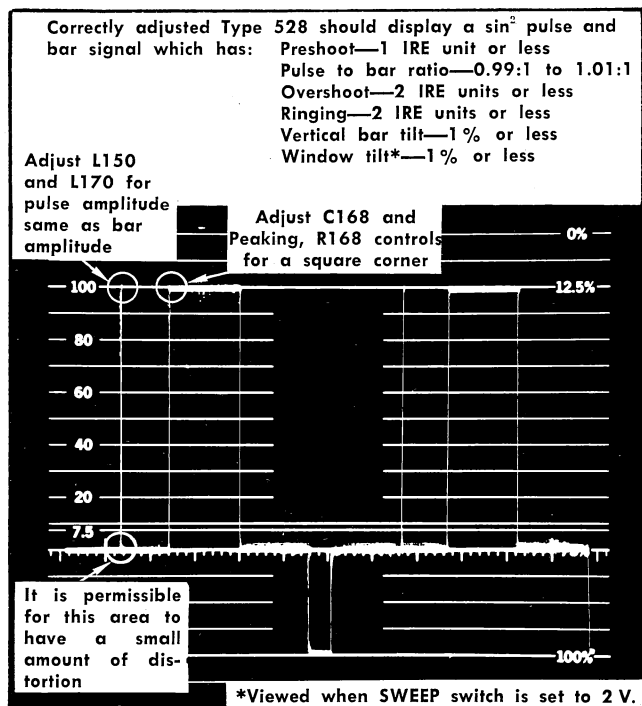

Fig. 5-8. Type 528 correctly adjusted using a standard \sin^2 pulse and bar signal.
PERFORMANCE REQUIREMENT—See table in Fig. 5-8.
h. PERFORMANCE/CALIBRATION CHECK—Type 528 display; see Fig. 5-8.